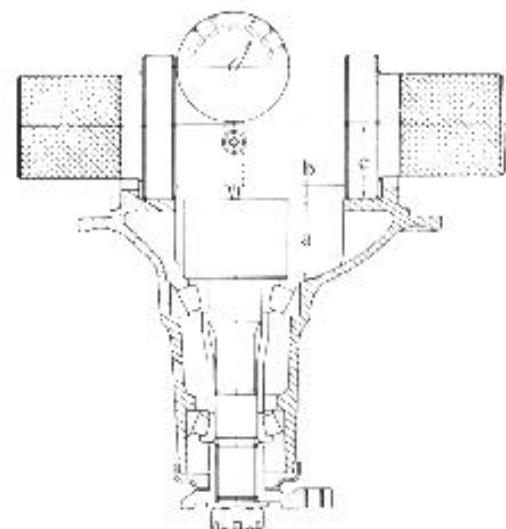

Fig. 10-12
2) Set the special tool in position as illustrated in the Fig. 10-12. Tighten the nut to the 50 – 70 kg-cm (3.6–5.1 lb-ft) torque.